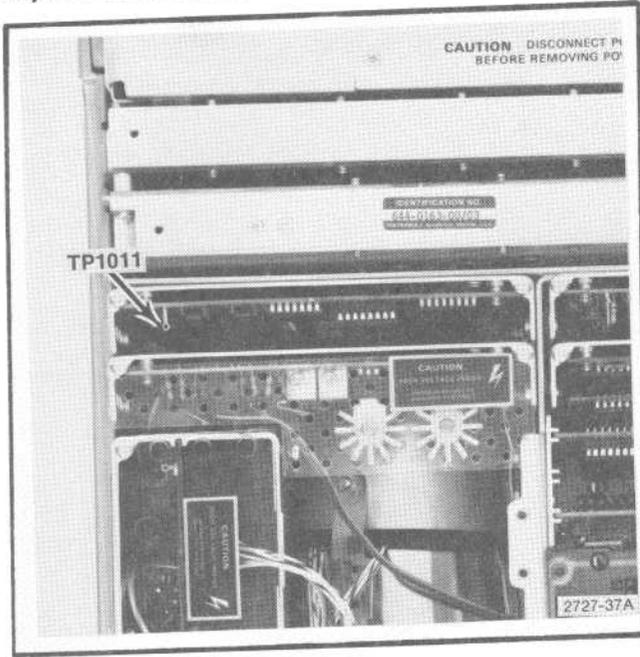

Fig. 3-26. Location of TP1011 on Crt Readout.
i. Change the test oscilloscope to Ext Trigger. Apply the Readout Off signal at TP1011 (Fig. 3-26), in the upper left corner of the crt readout board, to the test oscilloscope Ext Trigger input. Adjust the controls for a triggered sweep. Turn the 496/496P sweep off by activating SINGLE SWEEP, deactivate Digital Storage and ensure READOUT is on.